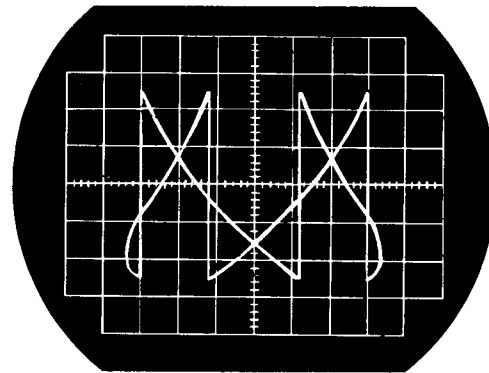

Fig. 18 Lissajous waveform
- Adjust VR1 of the MPX AF assembly to stop the Lissajous waveform in the oscilloscope (see Fig. 18).